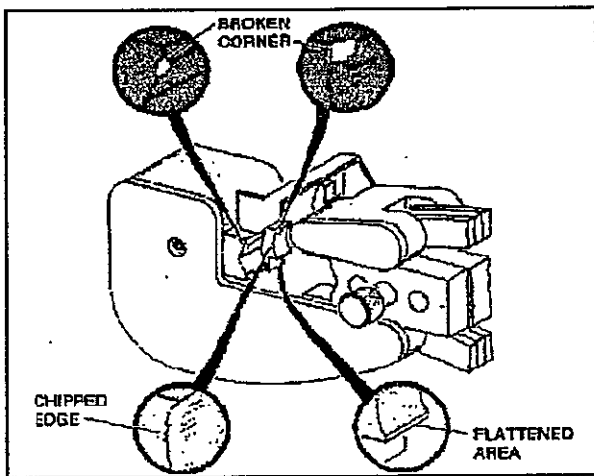

Fig 7
- (b) Inspect the die closure surfaces for flattened, pitted or chipped conditions. Although dies may gauge within permissible limit, worn or damaged die closure surfaces are objectionable and can affect crimp quality. Examples of possible damage to die closure surfaces are shown in Figure 7.